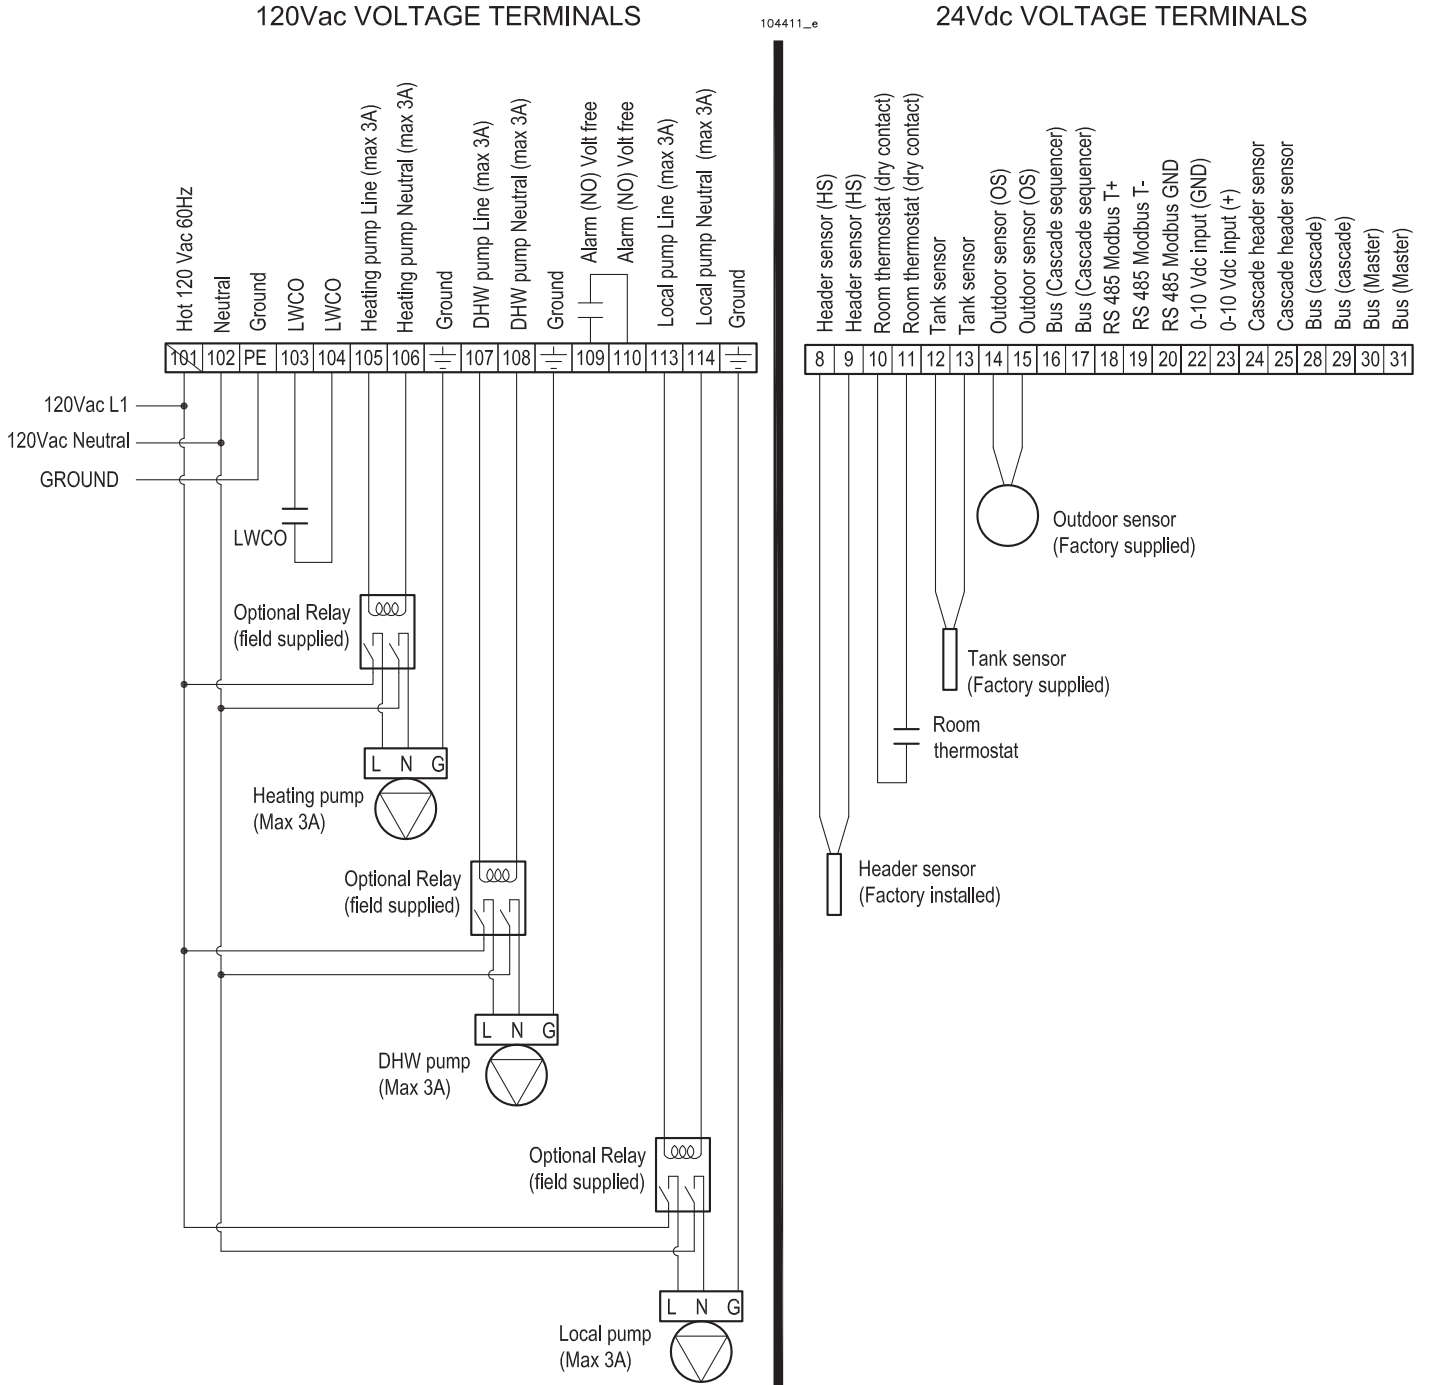

Figure 10-4 Electrical customer connection for IB boilers
3. connect the cable leads to the "10" and "11" terminals as shown in Figure 10-4.
or ventilation outlets nor directly under balconies or gutter pipes. Do not shield the outdoor temperature sensor. Do not install the sensor on walls without overhangs, or not protected from rain. Connect the outdoor temperature sensor to the boiler to terminals "14" and "15" (See figure 10-4):
On appliances model 399, 500, 750 and 1000 it is factory supplied the 885IF board that permit installer to drive the unit via a Vcc input (199 model can be equipped on demand). To do this, you have to connect the Vcc supply between terminals 22 and 23 (see Figures 10-4 and 10-5). Also, the CH mode (parameter 2003 as per Section 16.14) must be set to 4 value.
2. The indirect water heater pump (DHW pump) must be connected to terminals “107” and “108” (See Figure 10-4); a field supplied pump relay must be installed if the pump current draw is greater than 3 amps as indicated in Figure 10-4.
3. The indirect water heater temperature sensor (Tank sensor) must be connected to terminals “12” and “13” (See Figure 10-4).